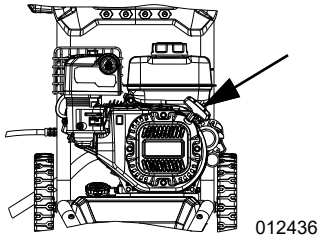

Figure 3-3. Engine Recoil
6. See Figure 3-3. Hold trigger on spray gun while firmly grasping the recoil handle. Pull slowly until resistance is felt. Then pull rapidly to start engine.